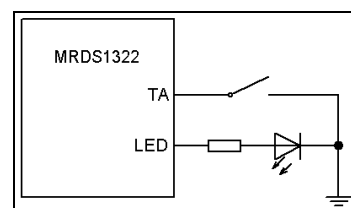

Figure 3.4 – TA and LED connection.
The external TA switch can set the Traffic Announcement flag to 1 if TP flag is on (1). The TA flag is set to 1 if the TA input is driven low. This can be done using simple mechanical switch (figure 3.4) or any logic circuit.